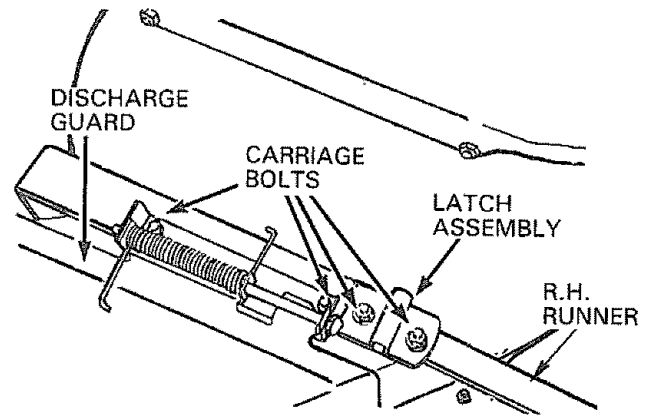

FIGURE 8
15. Assemble latch assembly to top of R.H. runner (Fig. 8) using: two 5/16 carriage bolts and two 5/16 locknuts (shown full size below). Bolt heads to underside of mower housing. NOTE: Do not tighten. Latch assembly and hardware furnished with grass catcher.
16. Attach discharge guard to latch assembly and mower housing (Fig. 8) using two 5/16 carriage bolts and two 5/16 locknuts (shown full size below). Bolt heads to underside of mower housing. Tighten securely. Hardware furnished with grass catcher. NOTE: Tighten hardware assembled in steps 13 and 15.